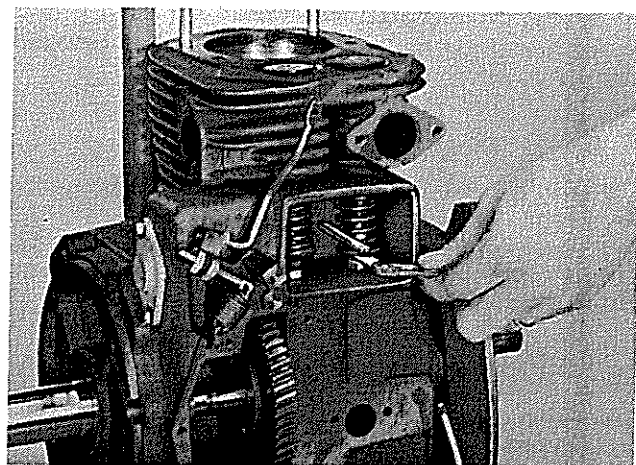

Figure 20
- c. Be sure valves are firmly seated in block and adjust clearance (Figure 20). Set exhaust to .020", intake to .008"—both adjustments to be made when engine is at top dead center.